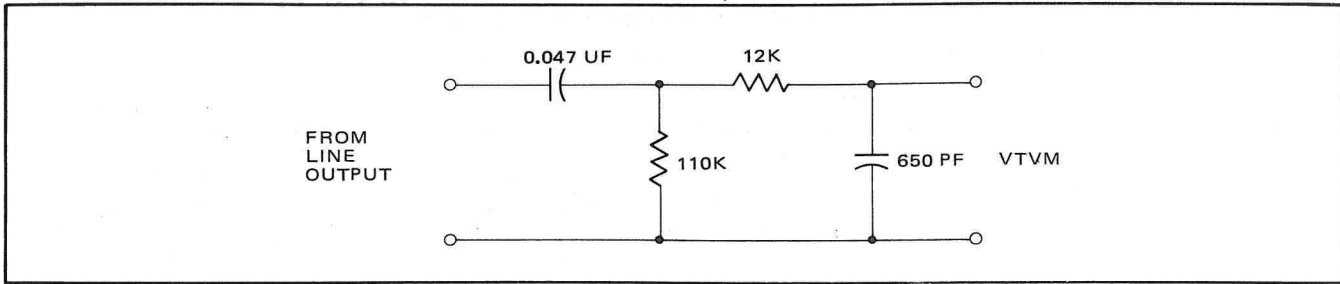

Figure 5-10. 30-Hz to 18-kHz Band-Limiting Filter
- a. Connect a band-limiting filter (Figure 5-10) between line output and an ac vtvm.
- a. Connect a band-limiting filter (Figure 5-10) between line output and an ac vtm.